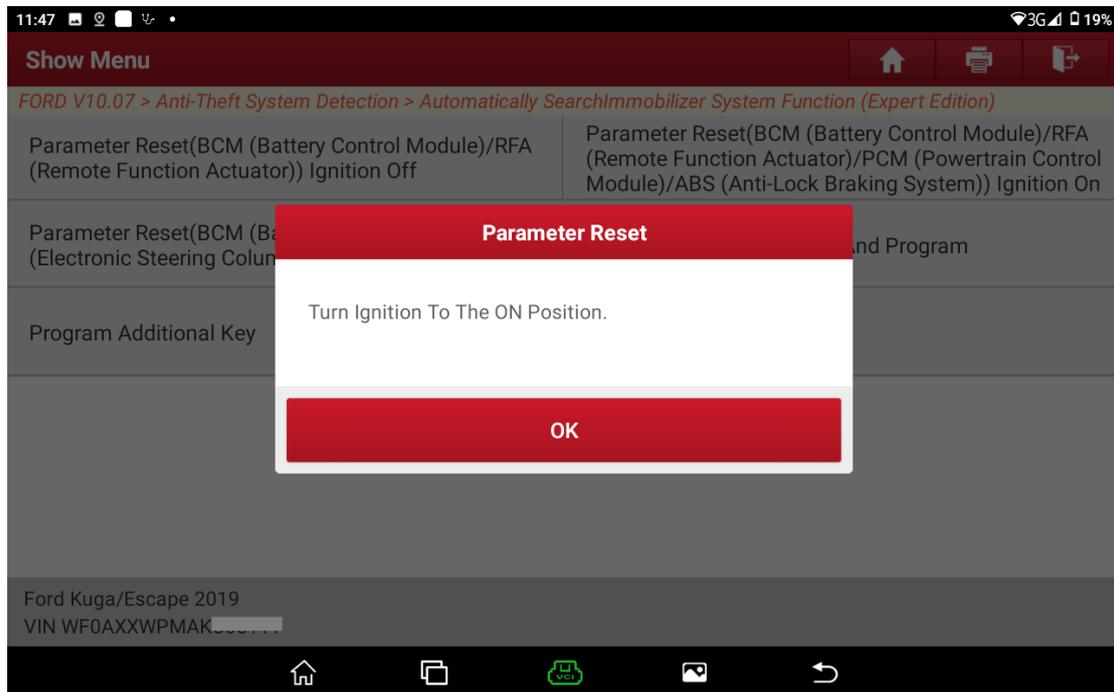

Figure 16
14. Prompt to turn on the ignition switch. See Figure 16.